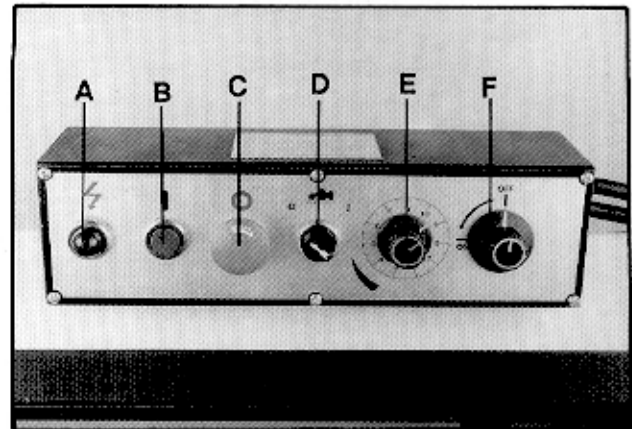

Fig. 5
Controls - Figure 5
2. Turn hydraulic valve to on (F, Fig. 5)
3. Turn cutting pressure control valve (E, Fig. 5) counter-clockwise until it stops.